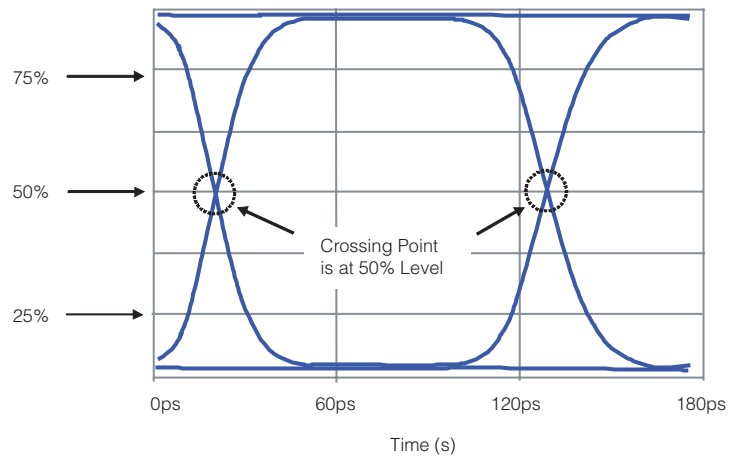
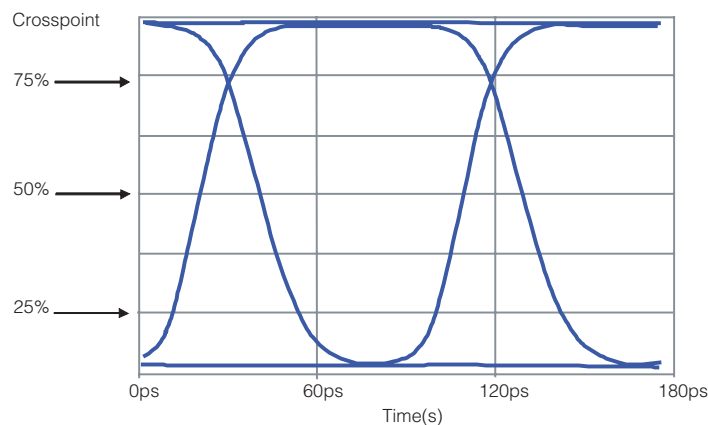
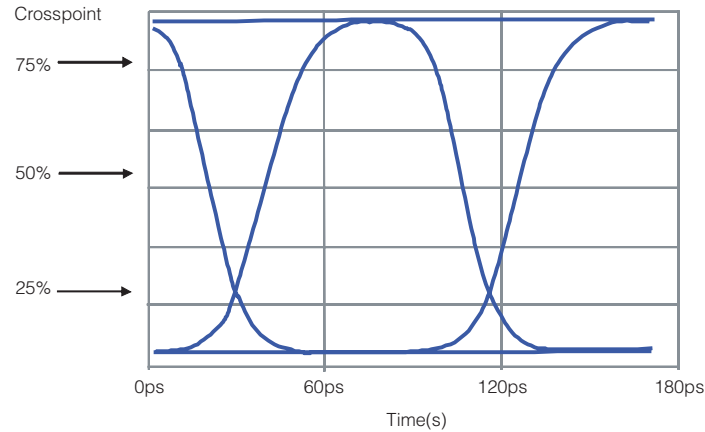

Figure 4-1: GN2014A Output Signal with CPA voltage set to 0.8V
Figure 4-2: GN2014A Output Signal when CPA Polarity control input is set high, CPA = 3.1V
Figure 4-3: GN2014A Output Signal when CPA Polarity control input is set low, CPA = 3.1V
1. Configure the evaluation board in accordance to the desired mode. See Figure 4-1, Figure 4-2 and Figure 4-3.
With CPA voltage set to nominal 0.8V, the output waveform will have a cross point at the 50% level, as indicated in Figure 4-1.
To increase the cross point to the 75% level, the CPA polarity (pin 10:CPAPol) must be set high, and the CPA voltage (pin 12:CPA) increased to 3.1V. This results in the output waveform illustrated in Figure 4-2.
To decrease the cross point to the 25% level, the CPA polarity (pin 10:CPAPol) must be set low, and the CPA voltage (pin 12:CPA) increased to 3.1V. This results in the output waveform illustrated in Figure 4-3.